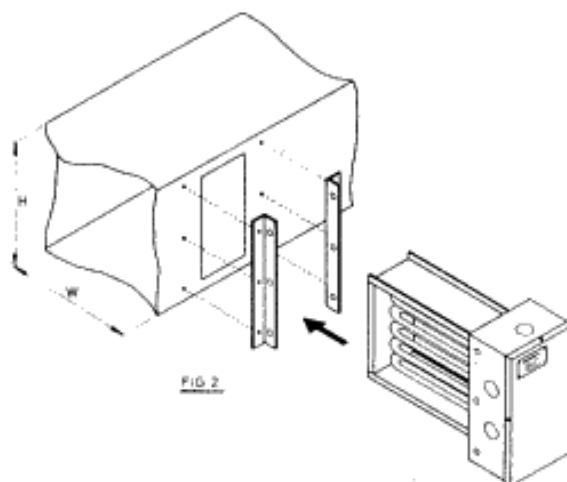

FIG. 2
- 1.4 Stab-in type heaters are fitted through an opening in the side of the duct as illustrated in Figure 2. The units are mounted to the duct with angle section (supplied by others). Where duct widths (W) exceed 600mm, additional support brackets or rails within the duct are recommended. Ensure that fixings through into the terminal enclosure do not protrude into the enclosure more than 15mm.